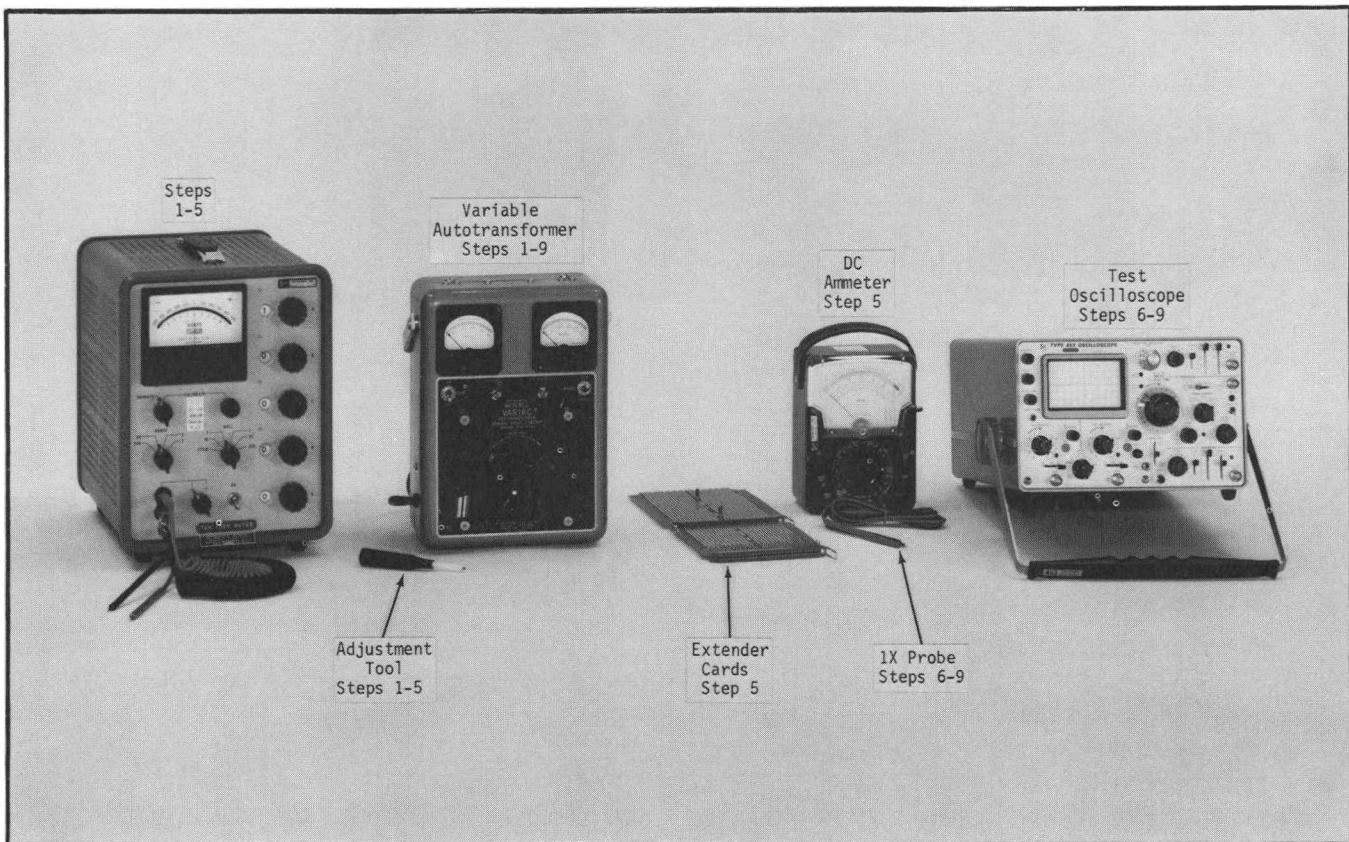

Fig. 4-1. Test equipment required for steps 1-9.
The following test equipment or its equivalent is required for complete calibration of the Type R250 (see Fig. 4-1). Specifications given are the minimum necessary for accurate calibration of this instrument. All test equipment is assumed to be correctly calibrated and operating within the given specifications. If equipment is substituted, it must meet or exceed the specifications given for the recommended equipment.
The procedure uses the equipment listed under Test Equipment Required. The equipment is shown in Fig. 4-1 at the beginning of the procedure. If substitute equipment is used, control settings or test equipment connections may need to be altered to meet the requirements of the equipment used.
- a. The test equipment setup is shown in Fig. 4-1.